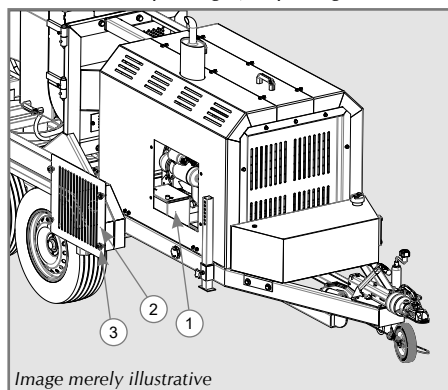

Figure 8
- Open the lid (2) for accessing the engine, loosening the fixing knobs (3) and connect the negative and positive cables at their respective places. After fixing the cables, certify that the battery is well set, assemble the lid (2) again using the knobs (3), which must be quite tight, as per Figure 8.